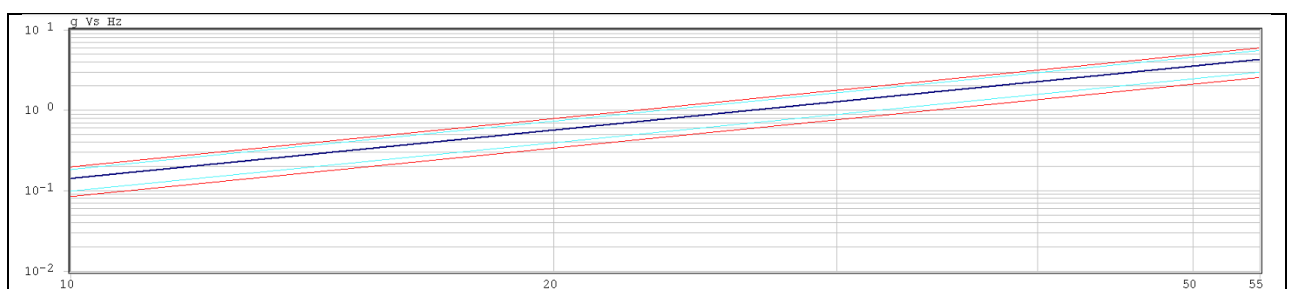

Fig. 6. Vibration profile
- vibration profile: as in Fig. 6